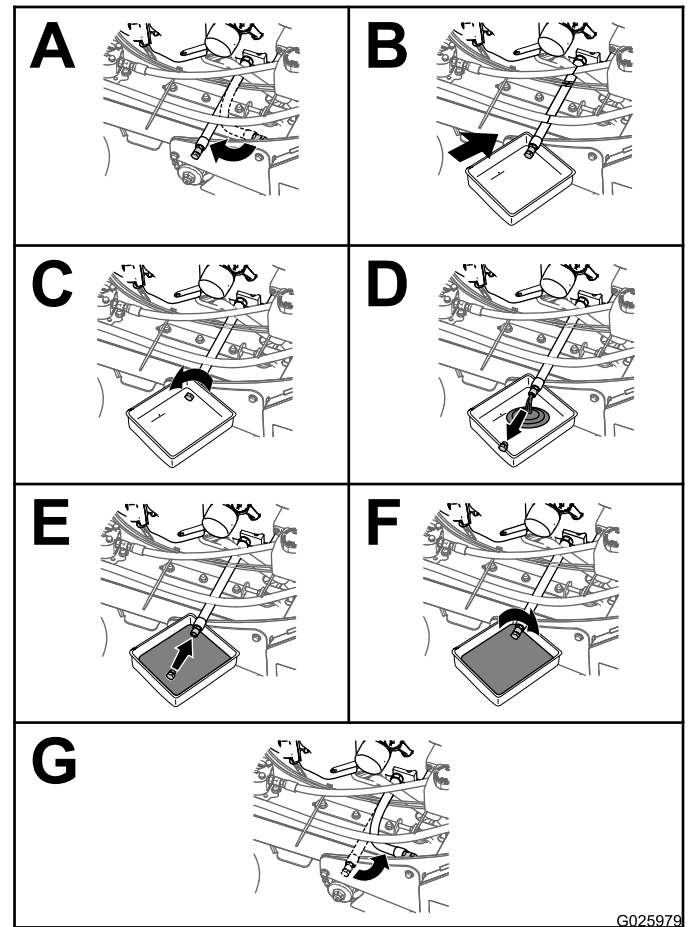

Figure 33
- Change the engine oil as shown in Figure 33.